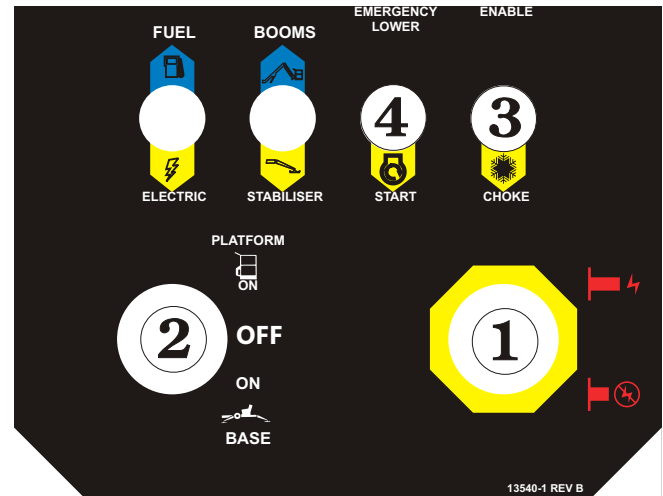

Figure 10.18 - Ground Control Box Starting
1. Set the **Emergency Stop** switch 1 to ON (see Figure 10.18).
2. Set the **Platform/Ground Selector** switch 2 to GROUND (see Figure 10.18).
3. If the engine is at ambient temperature (cold), hold the **Choke / Cold Start Switch** 3 (see Figure 10.18) down throughout the next step.
4. Press down on the **Start Switch** and hold it there until the engine starts or for a maximum time of 6 seconds. When the engine starts release the start switch 4 and the choke switch 3, if you used it (see Figure 10.18).